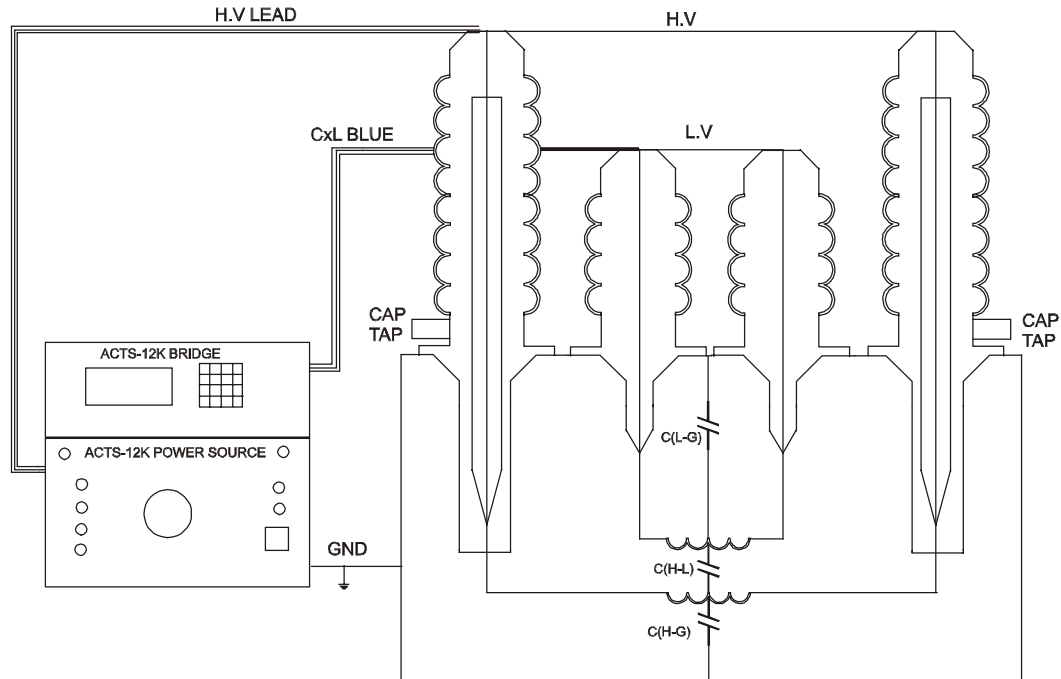

FIGURE 2-3. CONNECTIONS OF A TWO-WINDING TRANSFORMER
2.2 LEAD CONNECTIONS (Refer to Figure 2-3)
9. For a Two Winding Transformer, Connected as shown in Figure2-3 select **2 UST B**, **5 GST G** and **7 GST BG** by depressing the corresponding number keys.